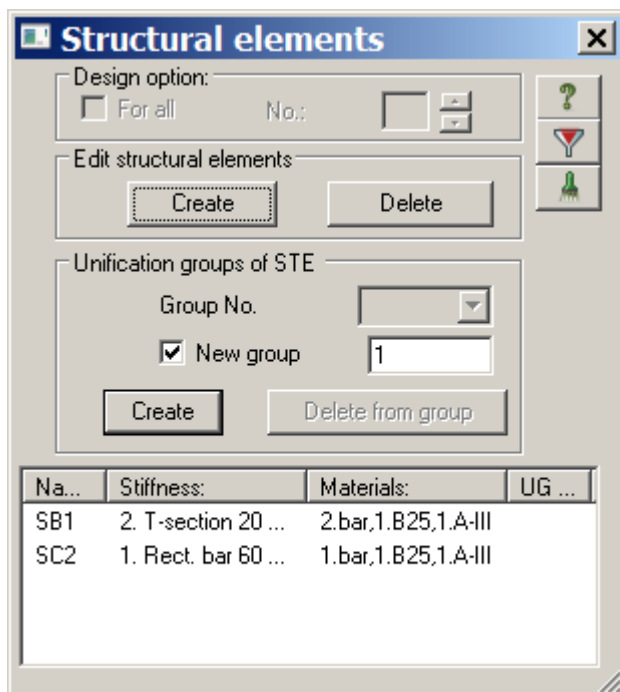

Figure 1.18. **Structural elements** dialog box
- ⇒ In the **Structural elements** dialog box (see Fig.1.18), under **Edit structural elements**, click **Create** (structural element BEAM is assigned in order to consider that it is precisely continuous beam).